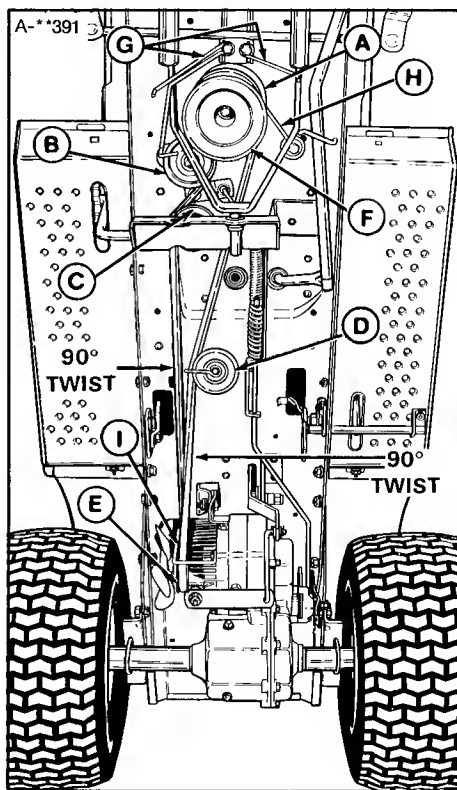
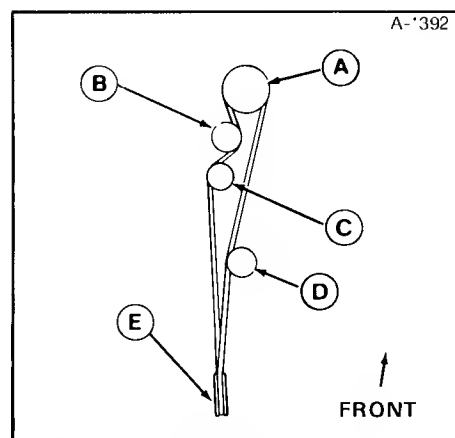

Figure 22. Tractor seen from underneath
Figure 23. Belt Diagram
2. Loosen the PTO pulley belt stops (G, figure 22).
3. Either remove the mower, or slip the mower belt off the PTO pulley (F).
4. Remove the tractor belt from the engine pulley (A) and allow to rest on top of the PTO pulley.
5. Loosen the belt stop on the idler pulley (B) and remove the belt.
6. Remove the idler pulley (D) by removing cap screw and nut.
7. Remove the belt guide (I).
8. Remove the belt from the transmission pulley (E). Rotate fan with belt to remove belt.
9. Remove the belt from PTO pulley (F) and tractor.
10. Install the new belt by reversing the procedure. Be sure the V side of the belt is against all the pulleys except the flat idler pulleys (B and D). There are only two twists in the belt, as shown in figure 22. The belt diagram is shown in figure 23.
Reference letters in Figure 23 are same as reference letters A thru E in Figure 22.
Adjust the two belt stops (A, figure 22) so there is 1/8" between belt stops and belt.